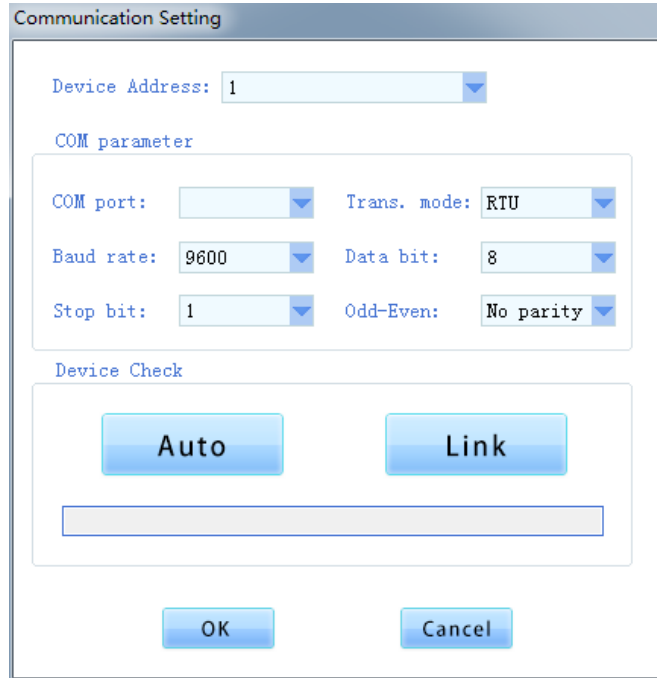

Fig 3-5 Communication Setting Interface
- Connect hardware equipment, user clicks [Setting]→ [Communication Setting] or click corresponding shortcut to access communication setting window(Fig 3-5); User selects corresponding [Device Address] & [COM port], then set parameters according to demands, click [Link] button or [Auto detection] button, program will search the communication parameter information automatically, click [Link] button again to realize the communication link after searching finished.